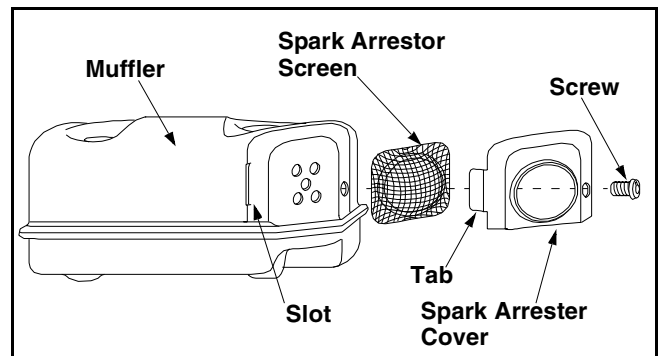

Figure 11
- Remove the screw attaching the spark arrestor cover to the muffler. See Figure 11.